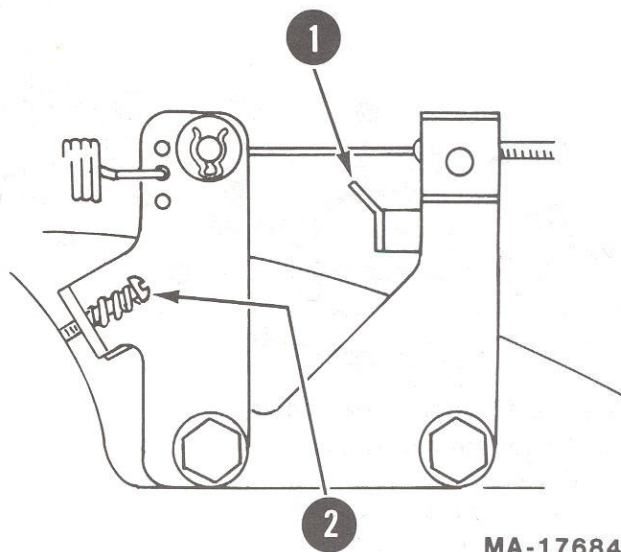

FIGURE 23.
3. Move engine speed control lever to slow position. Back out low speed screw on governor so that throttle stop screw on carburetor controls engine speed. Adjust throttle stop screw for 1,000 r.p.m. idle. See figure 23.